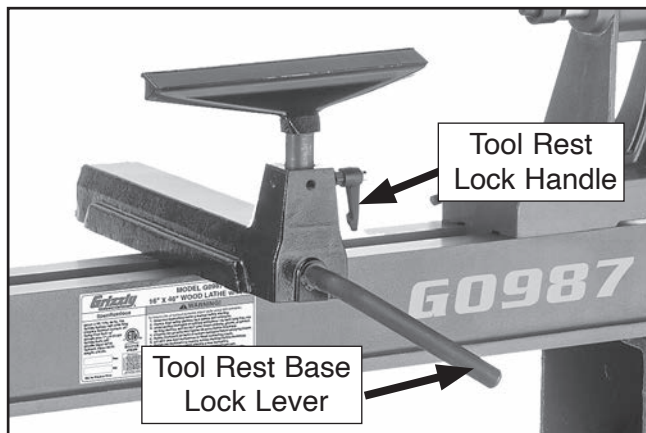

Figure 12. Tool rest controls.
8. Loosen tool rest lock handle, install tool rest in tool rest base, then tighten tool rest lock handle to secure (see **Figure 12**).